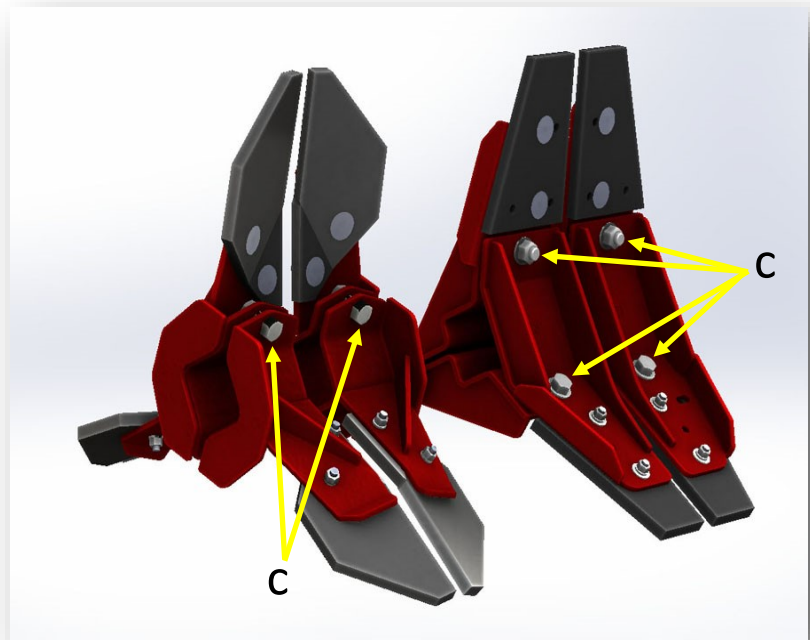

Figure 7-17: Standard Paddle and Hybrid Paddle Adjustment
- Loosen lock nuts (C), shown in Figure 7-17, on the paddle mounts.
- Tighten lock nuts (C).